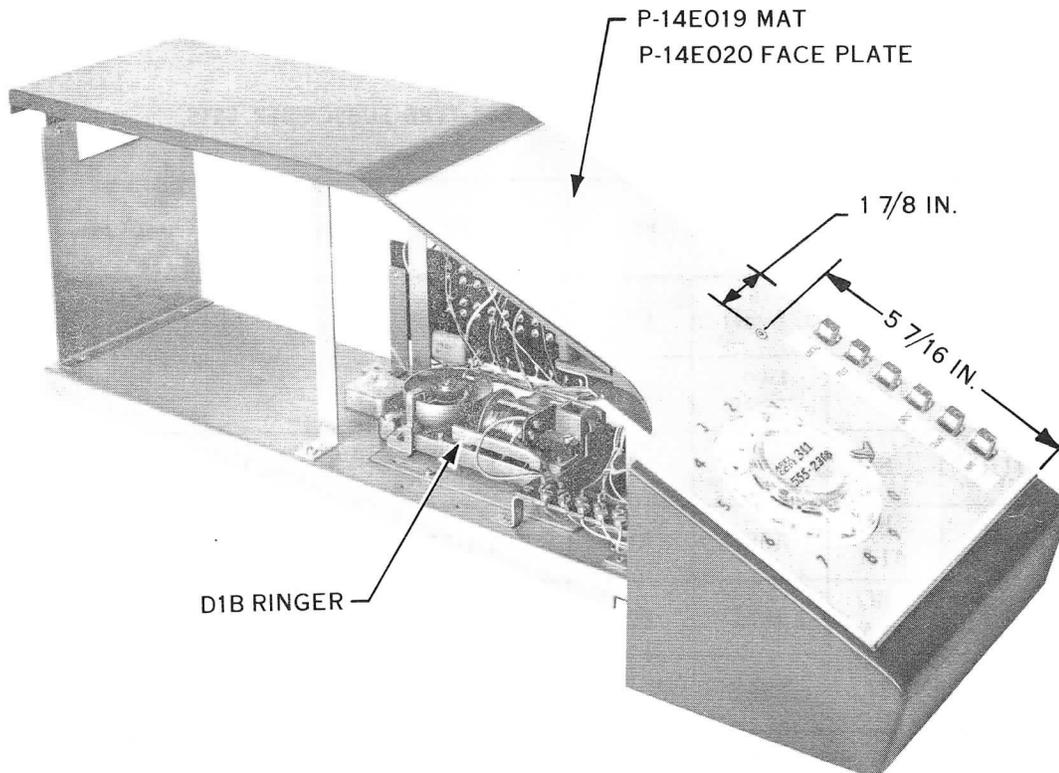

Fig. 1 — 689A Subscriber Set, Left View
2.02 This is a 6-button key subscriber set (Fig. 1 and 2) mounted in a gray plastic housing with sloping front surface. A clear plastic housing and gray paper mat are assembled in a stainless steel bezel. The bezel snaps into place on the sloping front surface. Two brackets, equipped with 10-32 PEM nuts, are located underneath the chassis for mounting on top of 101A DATA-PHONE units. (See 2.08 for ringer modification.)
- (a) Drill a hole through the Lucite faceplate and stainless steel frame 5-7/10 inches up from the bottom edge and 1-7/8 inches in from right edge, using a No. 27 drill (Fig. 1).